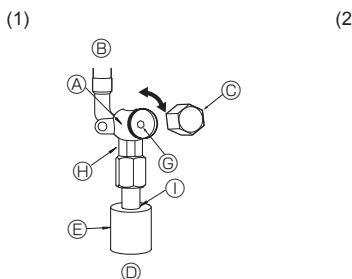

Fig. 4-5
(1) Gas side (Fig. 4-5)
- ① Remove the cap and turn the valve rod counterclockwise as far as it will go with the use of a 5 mm hexagonal wrench. Stop turning when it hits the stopper.